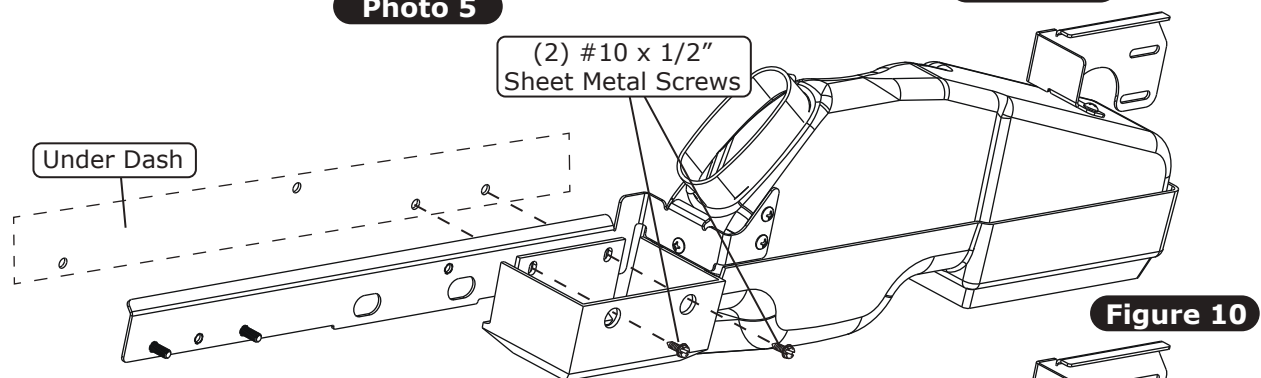

Figure 10
9. Temporarily install the OEM 4WD switch using the (2) OEM screws or (2) #10 x 1/2" sheet metal screws provided (See Figure 10, below).